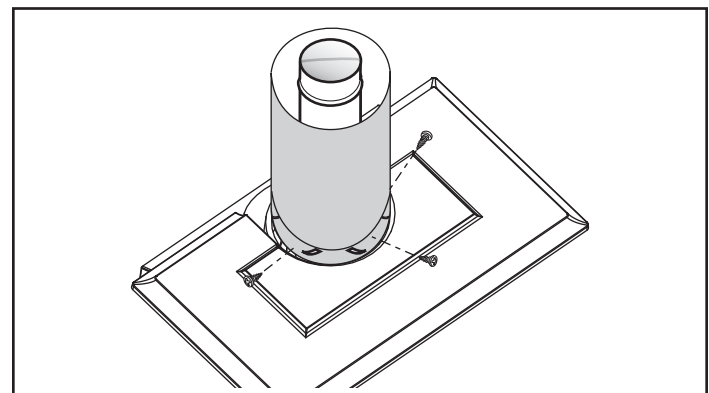

Figure 19 - Fasten outer pipe with #12 x 1/2" sheet metal screw.
5. **Install the Outer Adapter Pipe:** Apply a 1/4" bead of cement around the inside wall of the pipe, about 1" from the end. Insert the pipe over the stove flue collar, keeping the vertical seam oriented to the back of the stove. Also, be sure to align holes on the pipe with the holes on the flue collar of the firebox. Fasten the pipe to the holes in the flue collar with the #12 x 1/2" sheet metal screws provided. (Figure 19)